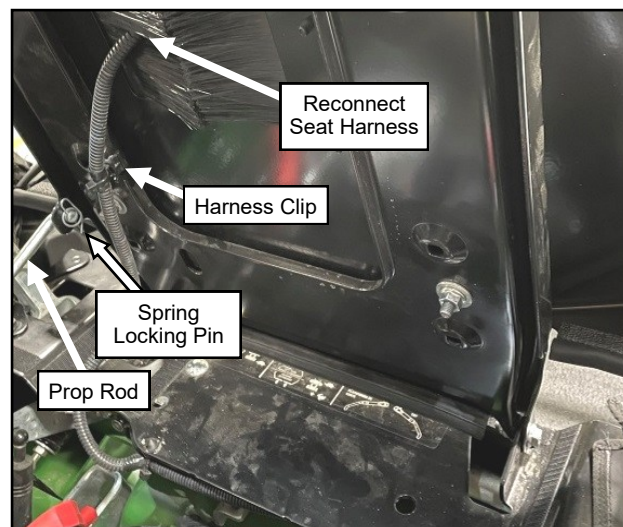

Fig. 1.29 (Reconnect Seat Connector & Prop Rod)
- 1.29** Tilt the seat forward, while holding the seat, re-install the prop rod to the seat frame and re-install spring lock pin. Next, reconnect 2-pin connector from the underside of the seat and re-install the harness clip to the seat frame. Lower the seat back down. See Figure 1.29.